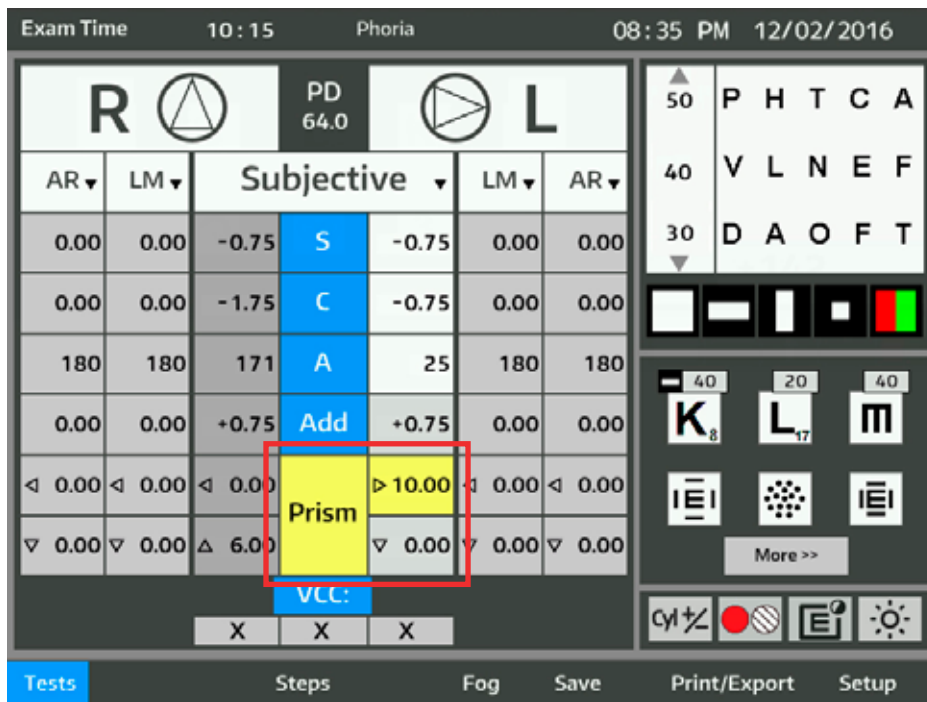

Figure IU-22 Vertical Phoria Test Screen
1. Touch **TESTS** and **PHORIA**. Refer to **Figure IU-22**.